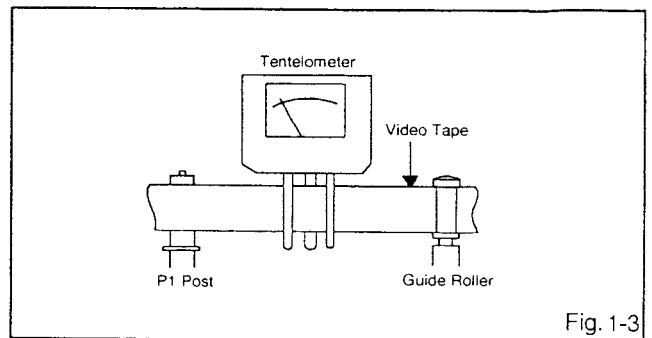

Fig. 1-3
2. Install the tentelometer as shown in **Fig. 1-3**. Confirm the value is within $18 \sim 24\text{gf}$ at this time.